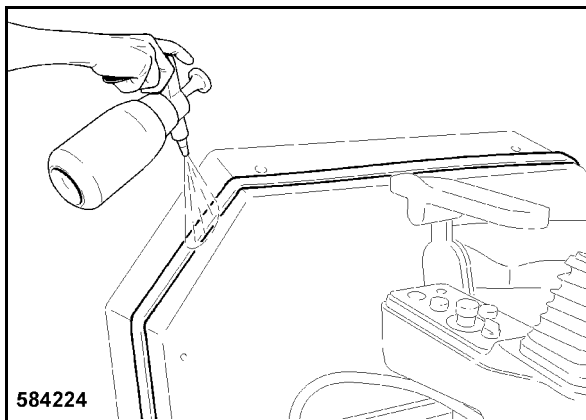

Fig. 206
- Spray the sealing tape with soapsuds (Fig. 206), to be able to slide the cabin on the operator's stand.